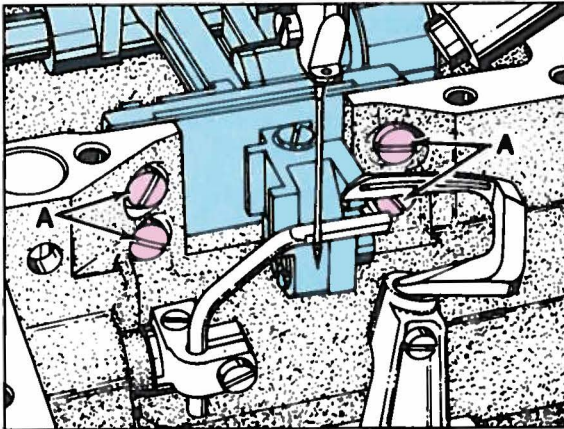
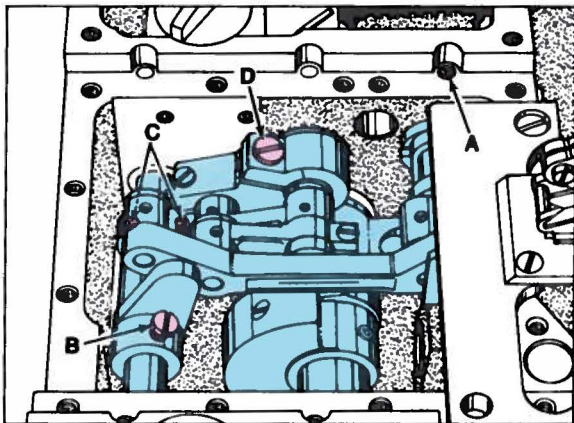

Fig. 11
Fig. 12
Loosen four screws (A, Fig. 11) securing feed bar seal plate, loosen set screw (A, Fig. 12) securing feed lift bushing, loosen screw (B) securing feed bar spacer, loosen two screws (C) in thrust collar and loosen binder screw (D) in stitch control link. This will permit shifting the feed mechanism slightly as required to center feed dog in throat plate. Tighten four screws (A, Fig. 11), screw (B, Fig. 12), two screws (C) while thrusting collar against feed rocker, screw (A) and screw (D) assuring that timing mark on stitch control link is aligned with timing mark on stitch regulating shaft.